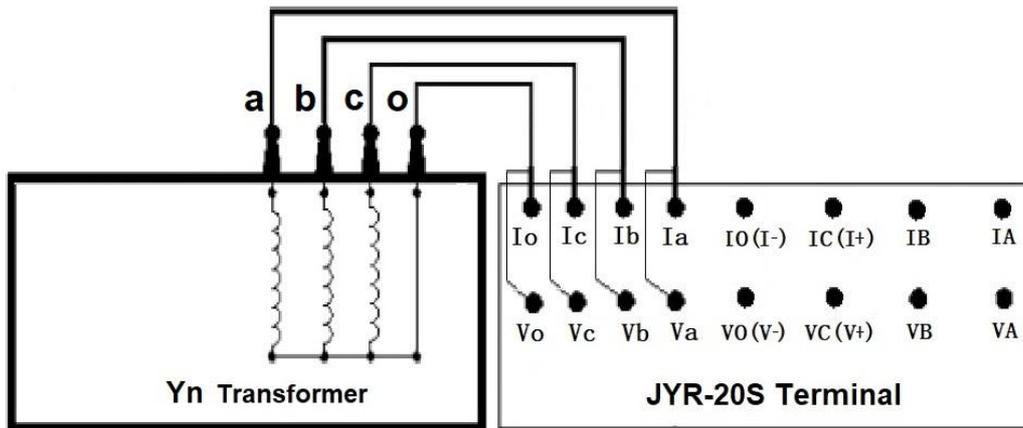

figure 5
**Yn winding phase by phase measurement:** (Yn winding each phase measurement) Yn winding wiring is shown in Figure 5 as below: